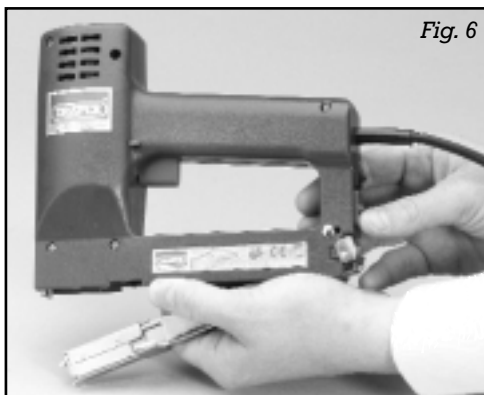

Fig. 6
4. Quick clogging release (Fig. 6).